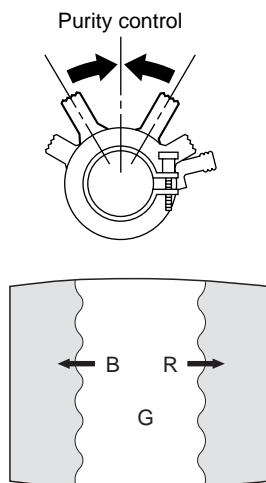

Fig.3-1
3. Shift the DY Assy to full of front side and rotate purity magnet and make green to center. (Fig.3-1 to 3-3)